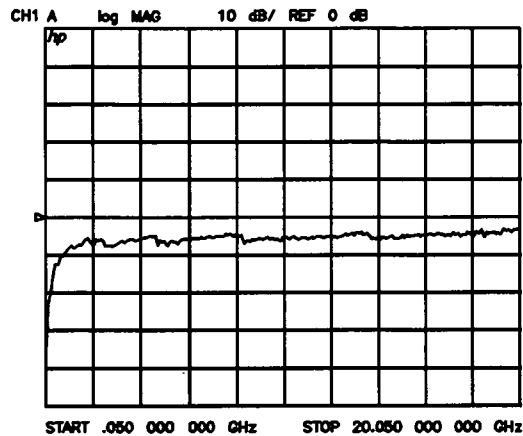

Figure 7-1. Typical Trace
12. Connect an open or short to port 1. Press **A** to look at input A (port 1). The trace should resemble Figure 7-1 below, with a minimum of about -35 dB at 50 MHz and a value around -8 dB over the flat section.
13. To check input B (port 2), connect an open or short to port 2, then press **B** **TEST SET REV** to drive port 2. Again, the trace should resemble Figure 7-1 below.
Does the display show a trace similar to Figure 7-1?